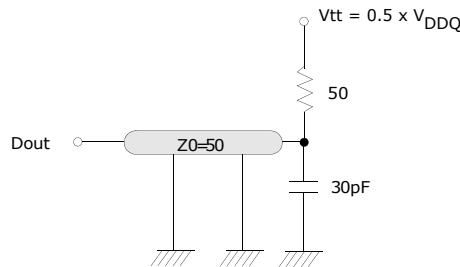

Figure 30.1 PAR Mode Execution and Exit
- Output load (See Figure 30.1): $CL=50pF$